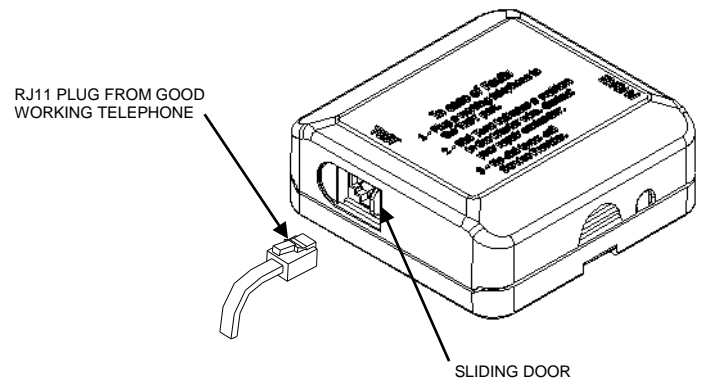

Figure 3
1. Slide open the cover from the Auto-Jack® test receptacle located on the side of unit. Using a working telephone, insert the telephone RJ-11 plug into the Auto-Jack (See Figure 3).